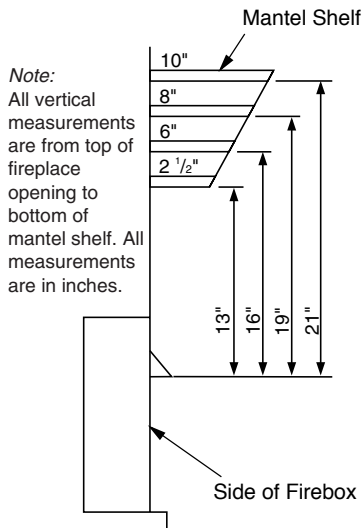

Figure 10 - Minimum Mantel Clearances for Built-In Installation
C. For mantel clearances, see Figure 10 on page 12.
Built-in installation of this fireplace involves installing fireplace into a framed-in enclosure. This makes the front of fireplace flush with wall. An optional trim kit accessory is available (see *Accessories*, page 40). Trim will extend past sides of fireplace approximately 1/2 inch. This will cover the rough edges of the wall opening. If installing a built-in mantel above the fireplace, you must follow the clearances shown in Figure 10, page 11. Follow the instructions below to install the fireplace in this manner.